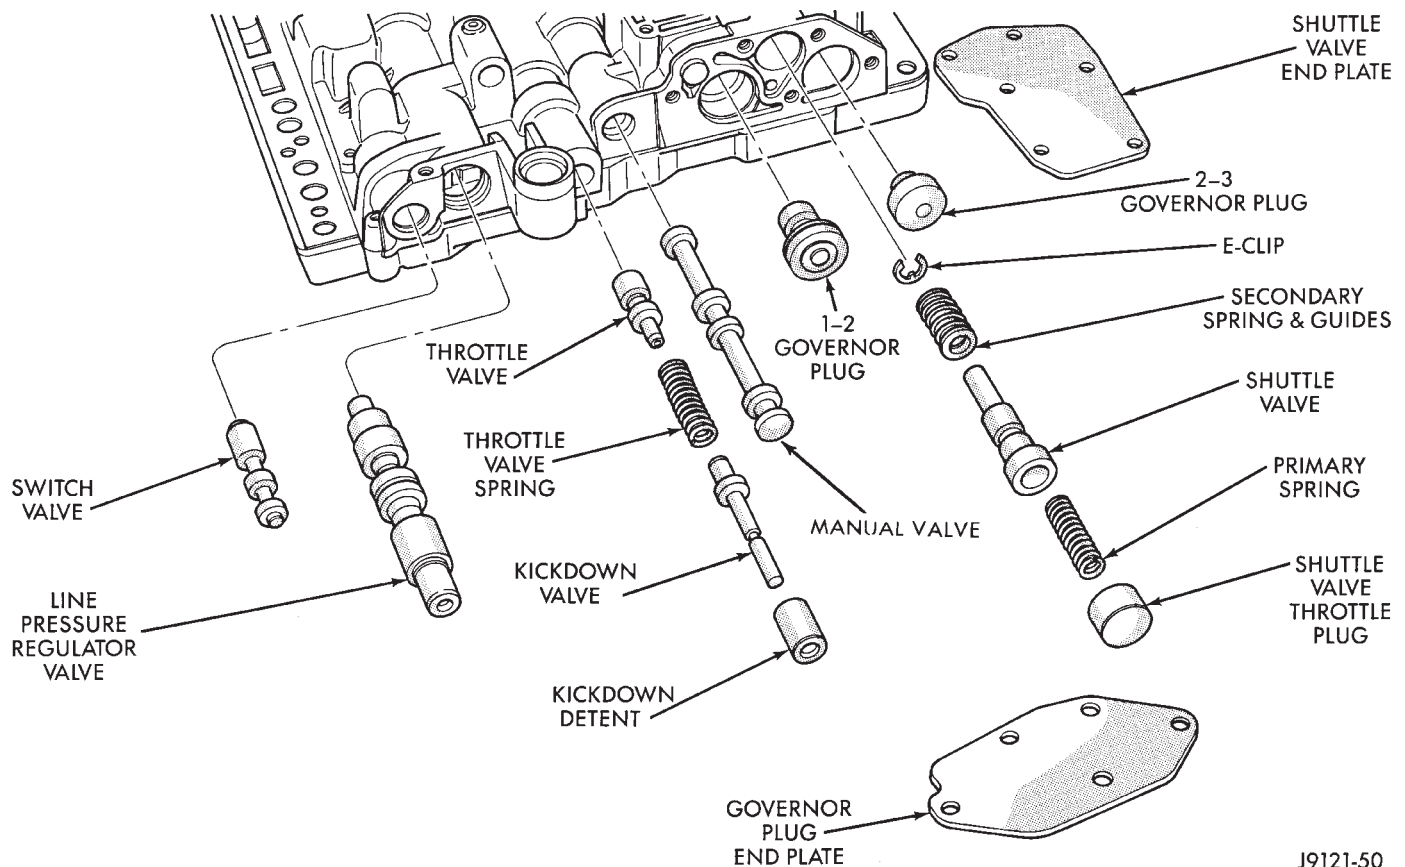

Fig. 117 Control Valves And Governor Plugs
(19) Remove governor valve end plate (Fig. 117).
(20) Remove switch valve and pressure regulator valve from valve body (Fig. 117).
(21) Remove throttle valve and spring, kickdown valve and detent and manual valve from valve body (Fig. 117).
(22) Remove 1-2 and 2-3 shift valve governor plugs from valve body (Fig. 117).
(23) Remove shuttle valve throttle plug, primary spring and shuttle valve from valve body (Fig. 117).
(15) Align and install governor plug end plate on valve body and install end plate screws. Tighten screws to 4 N·m (35 in. lbs.) torque.
(16) Install manual valve (Fig. 117).
(17) Install throttle valve and spring. Then install kickdown valve and detent (Fig. 117).
(18) Install pressure regulator valve and switch valve in valve body.